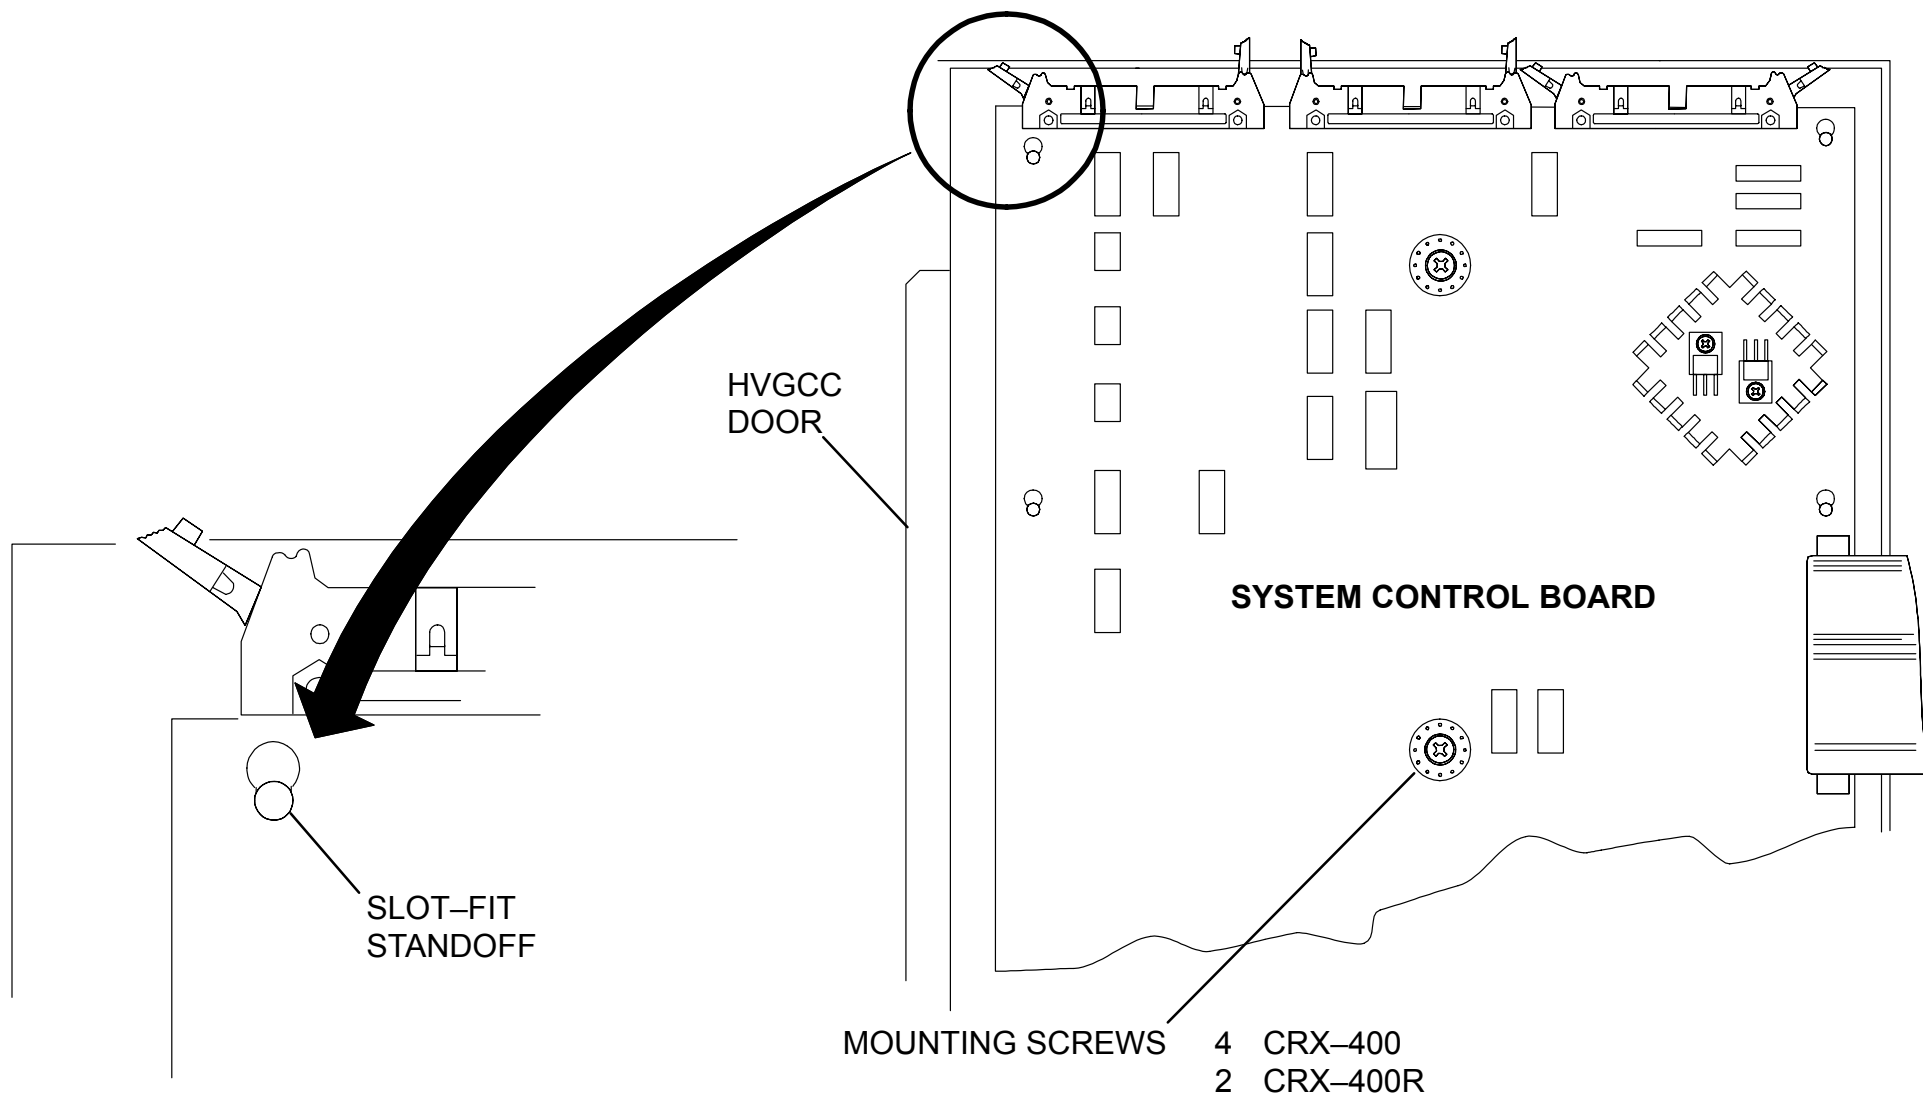

FIGURE 276 CRX-400R SYSTEM CONTROL BOARD
6. **CRX-400R:** Remove the two retaining screws which secure the system control board to the control chassis. Slide the board on its mountings to release it from the slide-fit slots and lift out the board. Store the circuit board in a static-protective bag. See Figure 276.